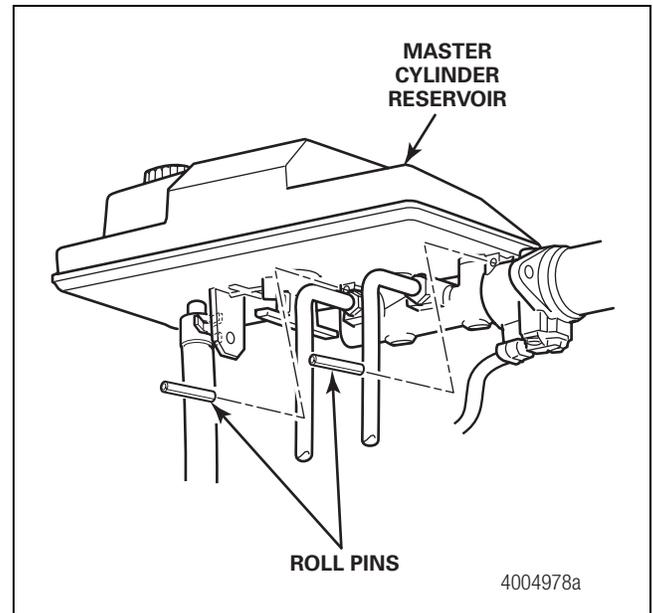

Figure 4.46
- C. Install the two new roll pins from the replacement kit. Drive the pins through the holes in the master cylinder boss and the reservoir mounting tab holes. Support the back of the tabs as you install each pin. Figure 4.46.